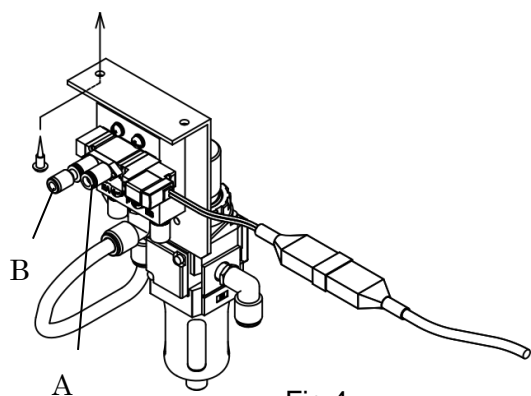
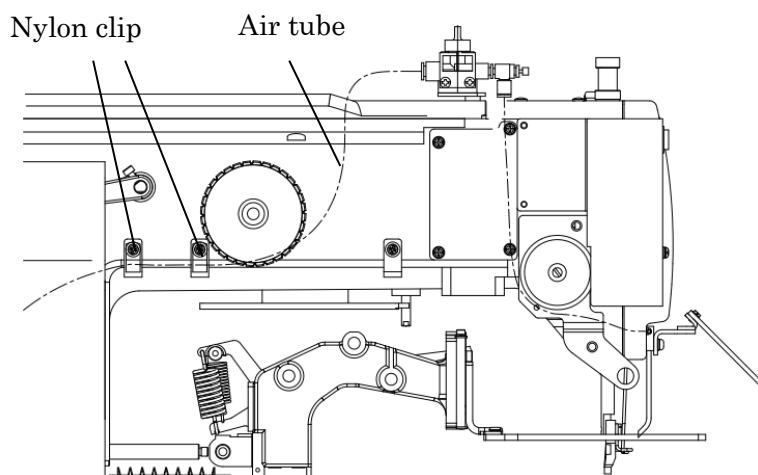

Fig.4
Fig.5
- (1) Please fix with two wood screws provided the pneumatic pressure control unit of sewing machine table underside as shown in Figure 4.
- (2) Pass the air tubes through the notched section on the side of the sewing machine unit's motor cover, and lead the tubes to the bottom of the table from the square hole on the table.
- (3) Connect to finger valve and the A port of the solenoid valve mounted in the air tube as shown in Figure 5. Put the Fig.No.208 plug to the B port of the solenoid valve.